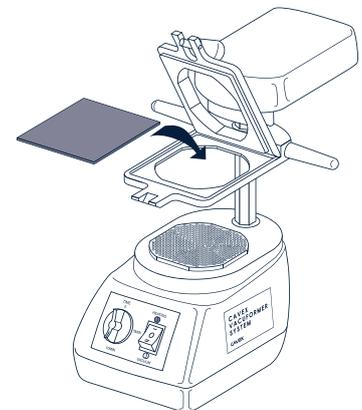

Fig. 3
3. Open the frame, position the appropriate vacuum-forming plate and carefully close the frame (Fig. 3).